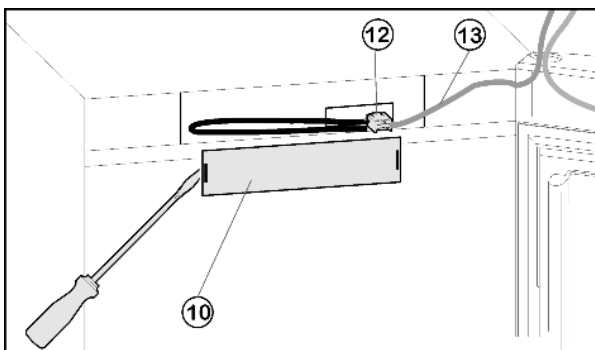

Fig. 8
- ▶ Remove the front panel Fig. 8 (10) using a flat-blade screwdriver.
- ▶ Remove contact and disconnect plug connector Fig. 8 (12).
- ▶ Detach grey cable Fig. 8 (13) from the guide.